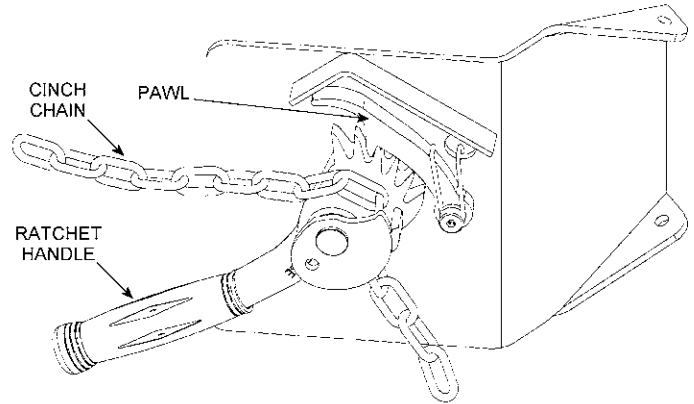

Figure 3.2
3. **Attaching the drum:** Drape the cinch chain across the front of the drum and engage a chain link into the slot in the ratchet (Figure 3.2). Turn the ratchet clockwise to tighten cinch chain. If ratchet turns until the pawl is beyond the last ratchet tooth, turn the ratchet back and slide the next link into the ratchet slot and try tightening again. The cinch chain must be held tightly against the drum with the pawl engaged securely in the ratchet teeth.